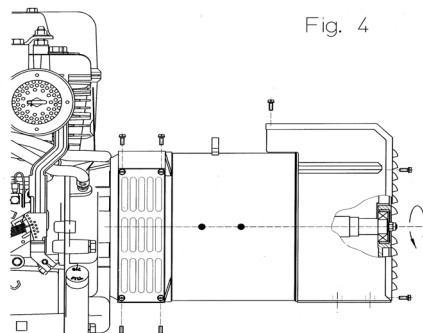

Fig. 4
-) block the central stay rod, applying a tightening torque of  $21 \pm 7\%$  Nm if you are using stay rods of M8, while if you are using M14 stay rods, apply a tightening torque of  $120 \pm 7\%$  Nm; reassemble the lateral protective nets and the rear closing grid by applying a tightening torque of  $3,5 \pm 7\%$  Nm to the M5 screws (figure 4)